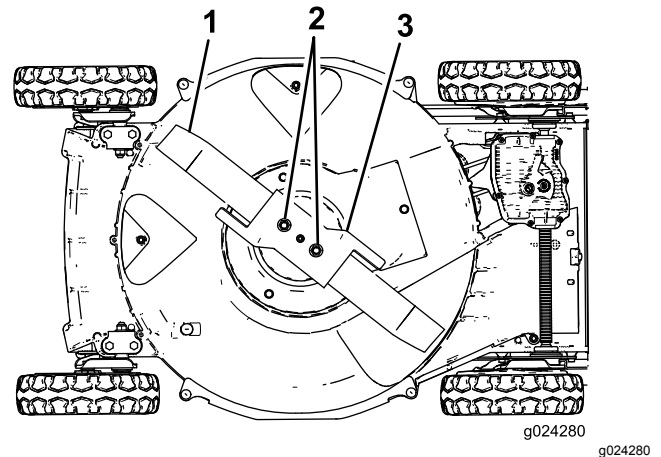

Figure 28
5. Tip the machine onto its **right** side (air cleaner up) as shown in Figure 28.